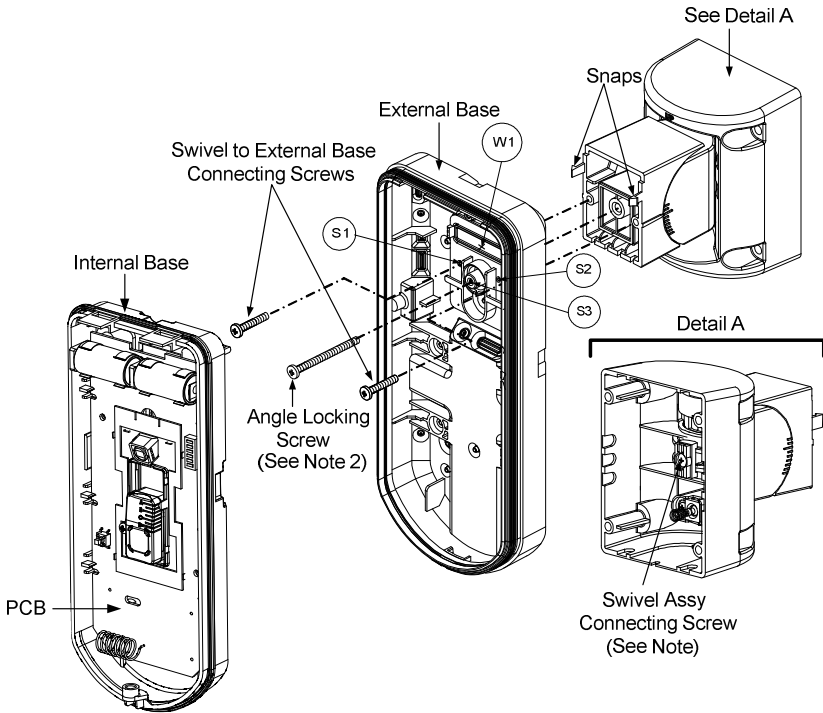

Figure 9
3. Connect the external base to the swivel using the dedicated snaps (Figure 9).
4. Secure external base to swivel with two screws fastened trough knockouts S1 and S2 (Figure 9).
5. Insert the supplied angle locking screw from the external base through the angle locking screw knockout S3 on the external base to the standard swivel (Figure 9).
When marks on the two movable parts are aligned (Figure 9), the Standard Swivel is in 0° vertical/horizontal position. Each click from this position represents shifting of 5° in vertical/horizontal position.